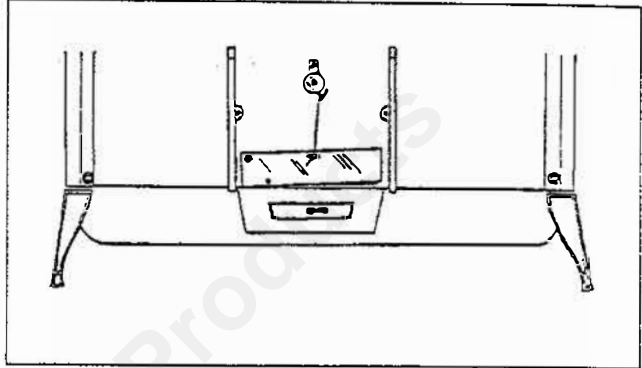

Figure 12. *Secondary air probe installation*
24. Install the secondary probe assembly. **Figure 12** for positioning guidance.